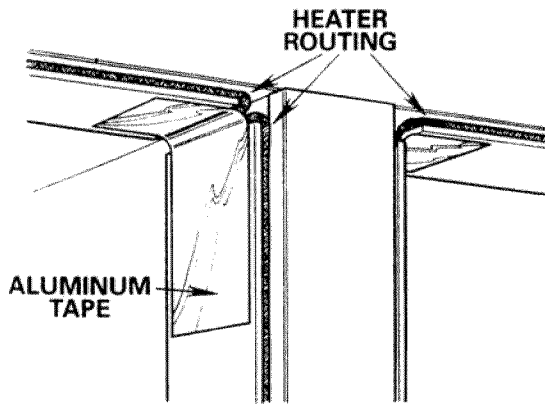

Figure 13 - Placement of Aluminum Tape Over Slots
16. Place a four (4) inch strip of aluminum tape over the slot. Refer to Figure 13.
23. Place a four (4) inch piece of aluminum tape over the wire slots and extend the tape across the top and bottom of the primary breaker. See Figure 13.